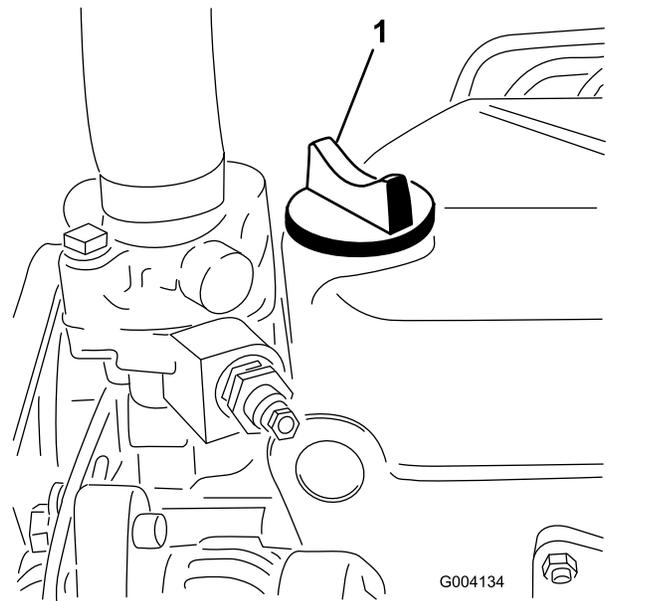

Figure 49
5. If the oil level is below the Full mark, remove the fill cap (Figure 49), and add oil until the level reaches the Full mark on dipstick.